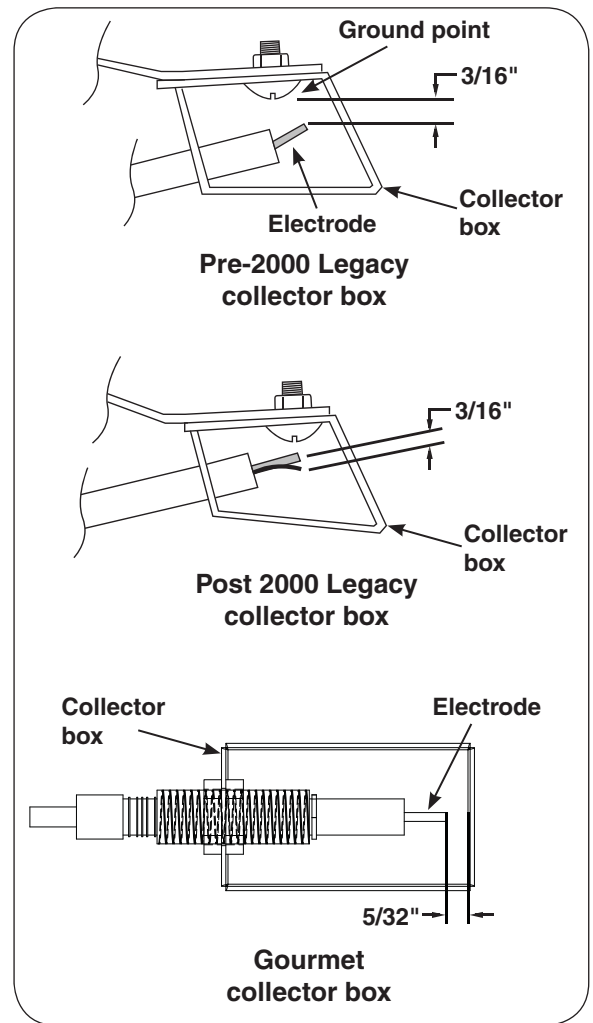

Fig. 2-1 Collector box
- Check the spark gap on the electrode. It should be  $3/16$ " between the tip of the electrode wire and the sparking (ground) point (see Fig. 2-1). Make sure the electrode is secure in the collector box, and the collector box is secure to the frame. Consult your grill installation instructions for the position of the collector box.